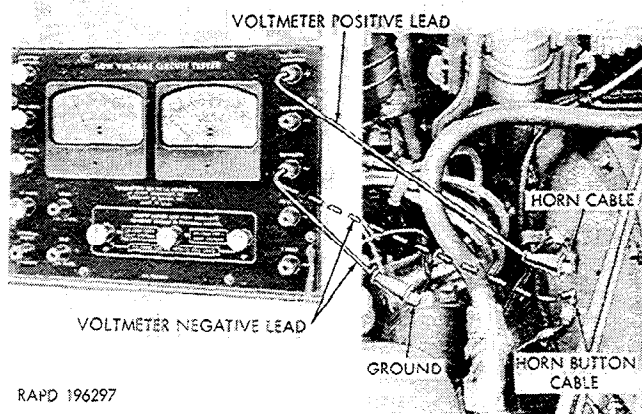

Figure 2-72. Checking for current through horn cables.
(3) *Horn cable (wiring harness) faulty.* Check the horn cable in the wiring harness, using the low voltage circuit tester (fig. 2-72).
(4) *Horn button cable or horn button parts faulty.* Check the horn button cable, using the low voltage circuit tester (fig. 2-72).